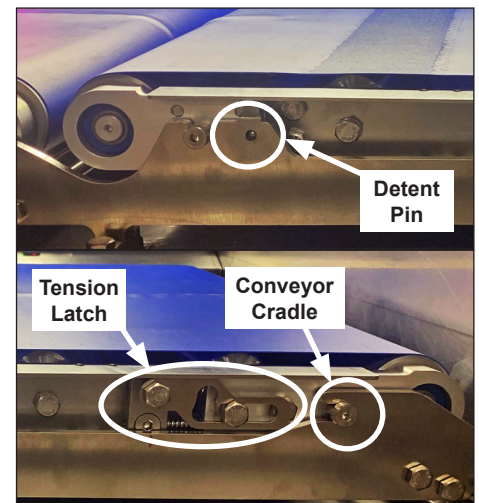
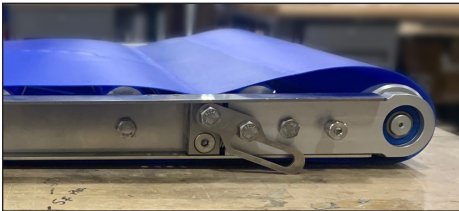

Figure 8. Conveyor Components
Figure 15. Conveyor tensioner latch released
4. Locate the detent pin (Figure 8) on the Conveyor Belt. Use a small screwdriver to press in and hold the pin.
7. Slide the Conveyor Belt back into the cradle of the Buffer Conveyor. Carefully lower the Conveyor Belt back into place, being cautious of magnet couplings connection (Figure 8).
8. Locate the detent pin (Figure 8) on the Conveyor Belt. Use the attached tool to press in and hold the detent pin in that locks the Conveyor Belt in place.
1. Place the Conveyor Belt on a sturdy, flat surface. Locate the end of the Conveyor containing the belt tensioner latch (Figure 8). This latch restrains spring pressure, which applies pressure to the belt. Press in firmly on the end and pull the belt up and away from the Conveyor to release tension on the belt (Figure 15).